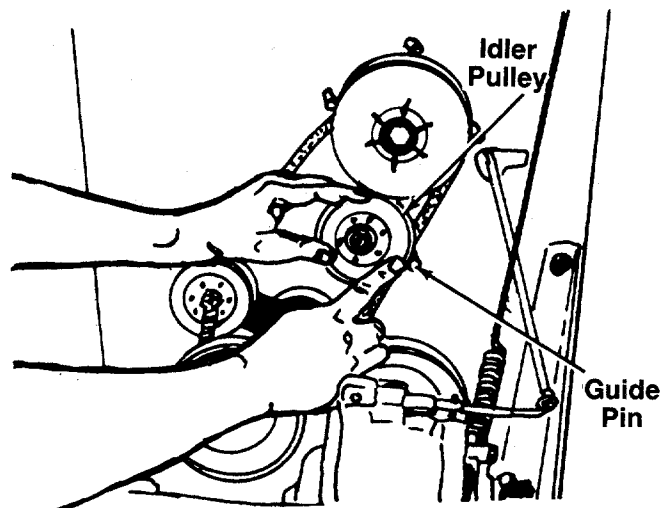

FIGURE 39.
11. When sliding the idler pulley on the idler bracket, be certain the belt is between the pulley and guide pin. See figure 39.